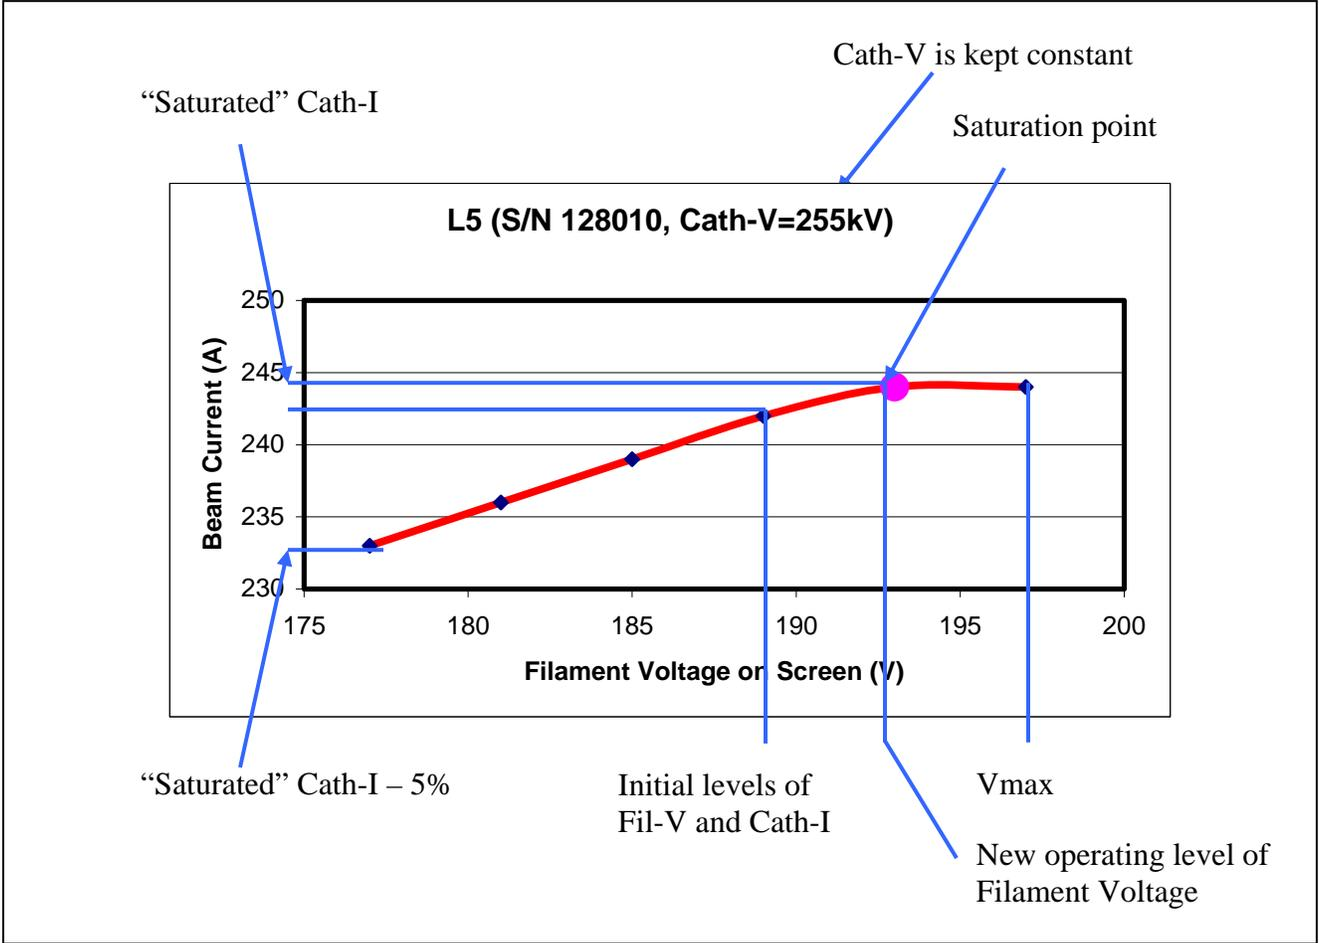

Figure 2. Example of the Klystron Filament Curve
5. Read and record in the Log book initial values of the Filament heater voltage (Fil-V) and current (Fil-I) (local Allen-Bradley controller (AB) screen). Compare the values to the Filament power supply front panel meter readings. Record the difference.
6. Read and record in the Log book initial values of the Klystron Pulse voltage (Cath-V) and Current (Cath-I) (lower-right corner of the EPICS Modulator Control window). Compare the values with the corresponding signal levels at the oil tank lid scope (Fig. 2). While reading the scope signal levels, make sure that two (“read back” and “scope”) cables are connected to each BNC connector (CT and VD) of the tank lid. Keep the cables connected at all times during the measurements and operation. If the EPICS window numbers are stable, and the difference between them and corresponding scope signals does not exceed 1%, you can use EPICS readings for further measurements. Otherwise, use the scope signals.
11. Repeat steps 10 and 11 until Cath-I drops to the value that is (5-7) % lower than the saturated level (see Fig. 2).
13. Using Microsoft Excel, plot the klystron Filament Curve (Fig. 2). Print it out and stick it in the Log book. Mark the Operating level of the filament voltage (the cathode saturation level or 1-2 volts lower).